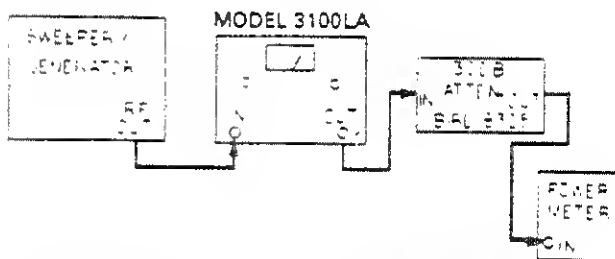

Figure 5-2. RF Output Power Test Set-Up
- Set-up the test equipment as shown in Figure 5-2.
- a. Set up the test equipment as shown in Figure 5-2 for RF power output test.
- a. Set-up the test equipment as shown in Figure 5-2.